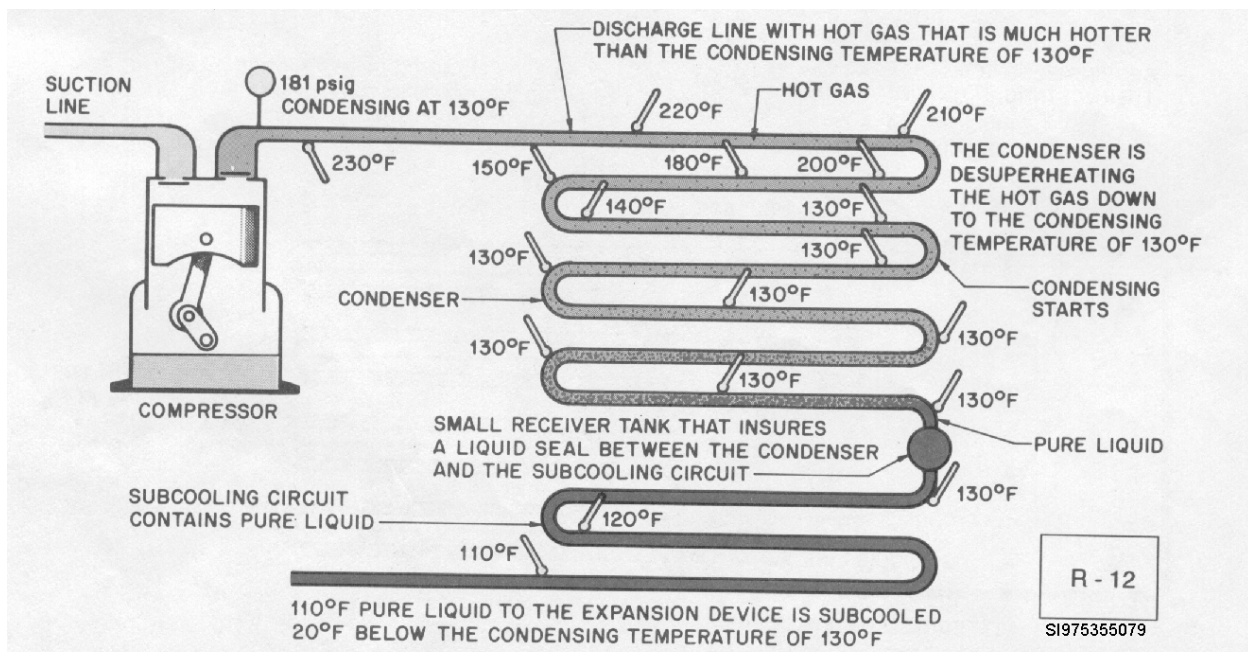

Figure 17, Checking the subcooling on a condenser.
The condenser does three jobs as shown in Figure 17: (1) de-superheats the hot gas, in the first part of the condenser. (2) Condenses the vapor refrigerant to a liquid, in the middle of the condenser. (3) Subcools the refrigerant at the end of the condenser. The condensing temperature corresponds to the head pressure. Subcooling is the temperature of the liquid line subtracted from the condensing temperature. A typical condenser can subcool the liquid refrigerant 5°F to 20°F cooler than the condensing temperature.